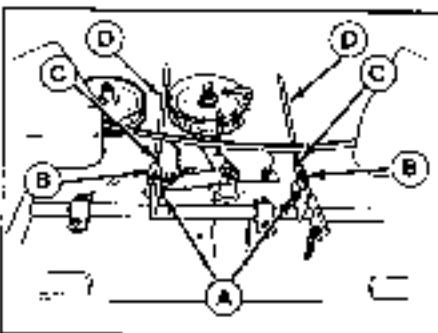

Figure 37. Turnbuckles
- 5 If adjustment is needed, remove the two pins (A, figure 37) by removing the center pins. Loosen the jam nuts (C). Turn both elevators the same number of turns, shortening the bail arms to raise the front of the mower and lengthening the bail arms to lower the front of the mower. One full turn will equal about 1/8 inch.